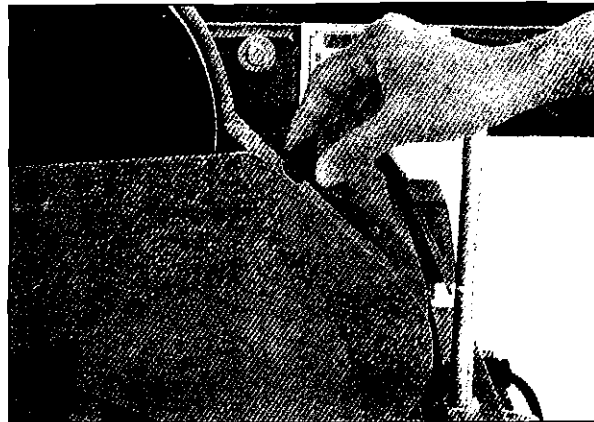
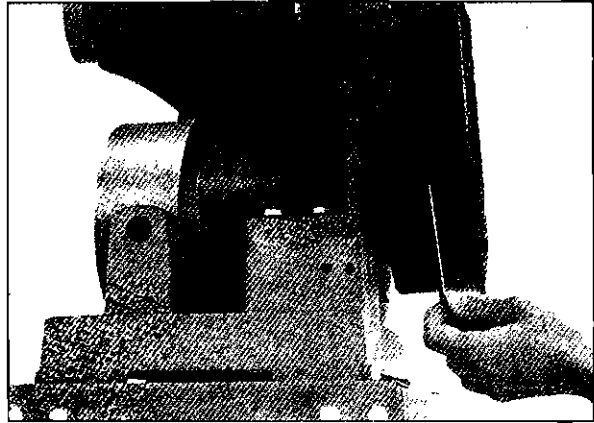

Fig. 10
Fig. 12
**Step 1.** First remove work table. Remove knob on disc cover (Fig. 10). Open disc cover. Tear off old sanding disc. You may need to use mineral spirits and a putty knife if the disc has been on for an extended period. Take care *not* to scratch aluminum disc plate. Clean off all remaining glue from plate.
To replace V-belt, remove work table and drop dust cover as explained in Fig. 10. Loosen the four motor mounting bolts at base of motor. Slide motor towards the disc. At the underside of the disc housing, locate rectangular window (Fig. 12). Insert allen wrench. With your hand, spin disc until the set screw holding the disc facing down, then insert allen wrench and loosen set screw. Slide off disc. Remove old belt, or any pieces of broken belt. Place new V-belt on disc pulley and slide it back onto the arbor. Replace disc. Tighten set screw. **Note:** Be sure disc pulley and motor pulley are perfectly aligned to minimize V-belt and motor wear. Place V-belt onto motor pulley, and slide motor back to original position for proper belt tension. Return disc cover and work table to original positions.